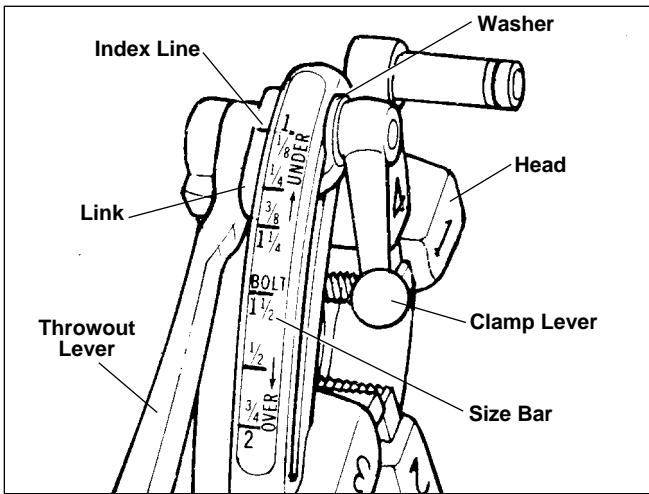

Figure 9 – Universal Quick-Opening Die Head
6. Quick-Opening 811A Die Head (*Figure 9*) – When the end of the pipe being threaded is flush with the end of the number 1 die, rotate throwout lever to OPEN position, retracting dies.
The No. 811A Universal Die Head (*Figure 9*) for right hand threads requires four sets of dies to thread pipe ranging from ⅛" through 2". One set of dies is required for each of the following pipe size ranges: (⅛"), (¼") and (⅜"), (½" and ¾") and (1" through 2"). Bolt threading requires a separate set of dies for each bolt size. No bolt dies are available for left hand universal die heads.